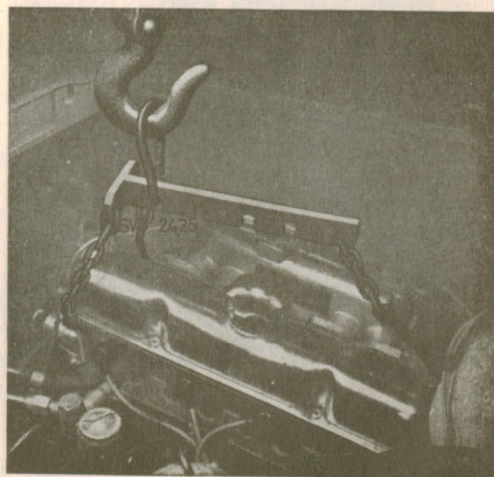

Fig. 1-31. Lifting out the engine
7. Fit lifting tool SVO 2425 to the engine. Tighten the bolt on the tool in the hole at the front end of the cylinder head, locate the hooks under the manifold front and rear. See Fig. 1-31.